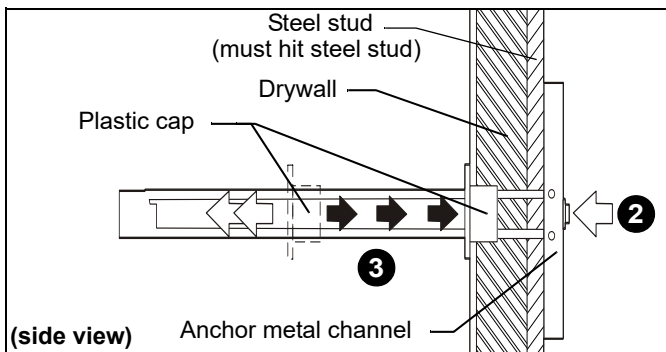

Figure 6
2. Holding plastic straps on anchor, pull anchor away from wall until channel rests flush behind wall making sure anchor channel is positioned vertically on drywall, or steel stud (if present). (See Figure 6)
3. Slide plastic cap on anchor towards wall until flange of cap is flush with wall. (See Figure 6)